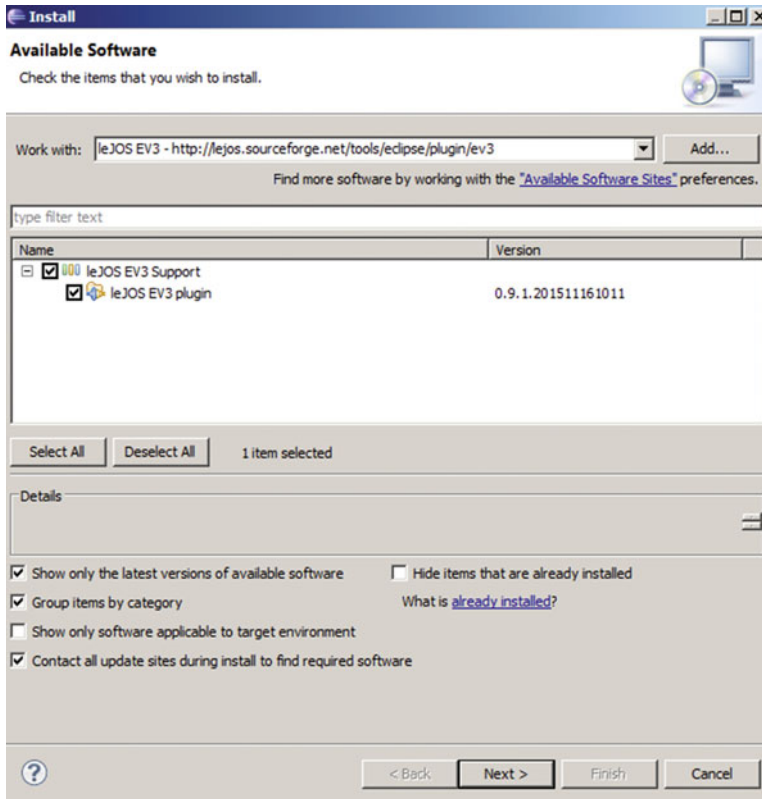

Figure 1-22. Step 3 of installing the leJOS EV3 plug-in
3. Click OK. You should see a new item in the main dialog box, as shown in Figure 1-22. Place a check mark in the box next to the new item, and click the *Next* button.